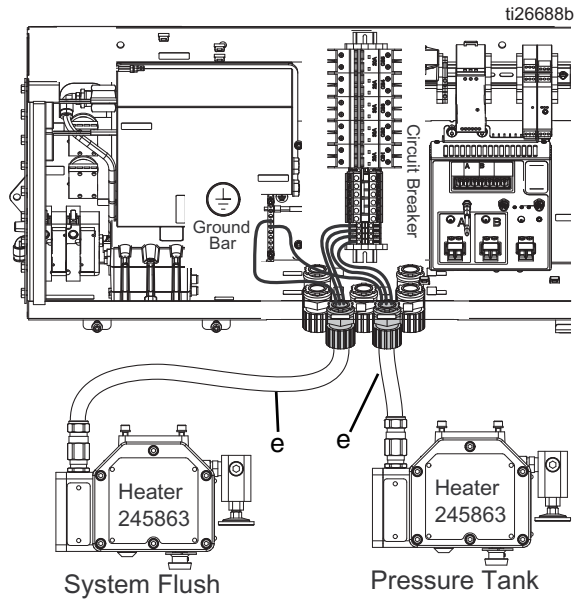

FIG. 17
- For Hazardous Location Models,** Connect heater power cables (e) for the tanks heater the flush heater to the terminal blocks. See FIG. 17.